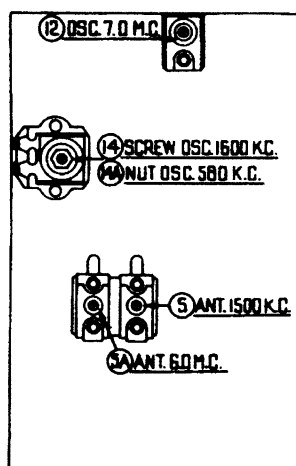

Fig. 3—R.F. Compensators
1. Set range switch in position No. 1 (Broadcast). Turn signal generator and receiver dials to 1600 K. C. Then adjust (14) Osc. "Screw", and (5) antenna for maximum output.
2. Turn signal generator and receiver dials to 580 K. C. and adjust compensator (14a) Osc. "nut"—see Fig. 3—as follows: To adjust compensator (14a) the tuning condenser must be rolled for maximum output, thusly: First turn the compensator (14a) for maximum output. Then vary the tuning condenser for maximum output about 580 K. C. Now retune compensator (14a) and again vary the tuning condenser back and forth about the 580 K. C. dial mark for maximum output.